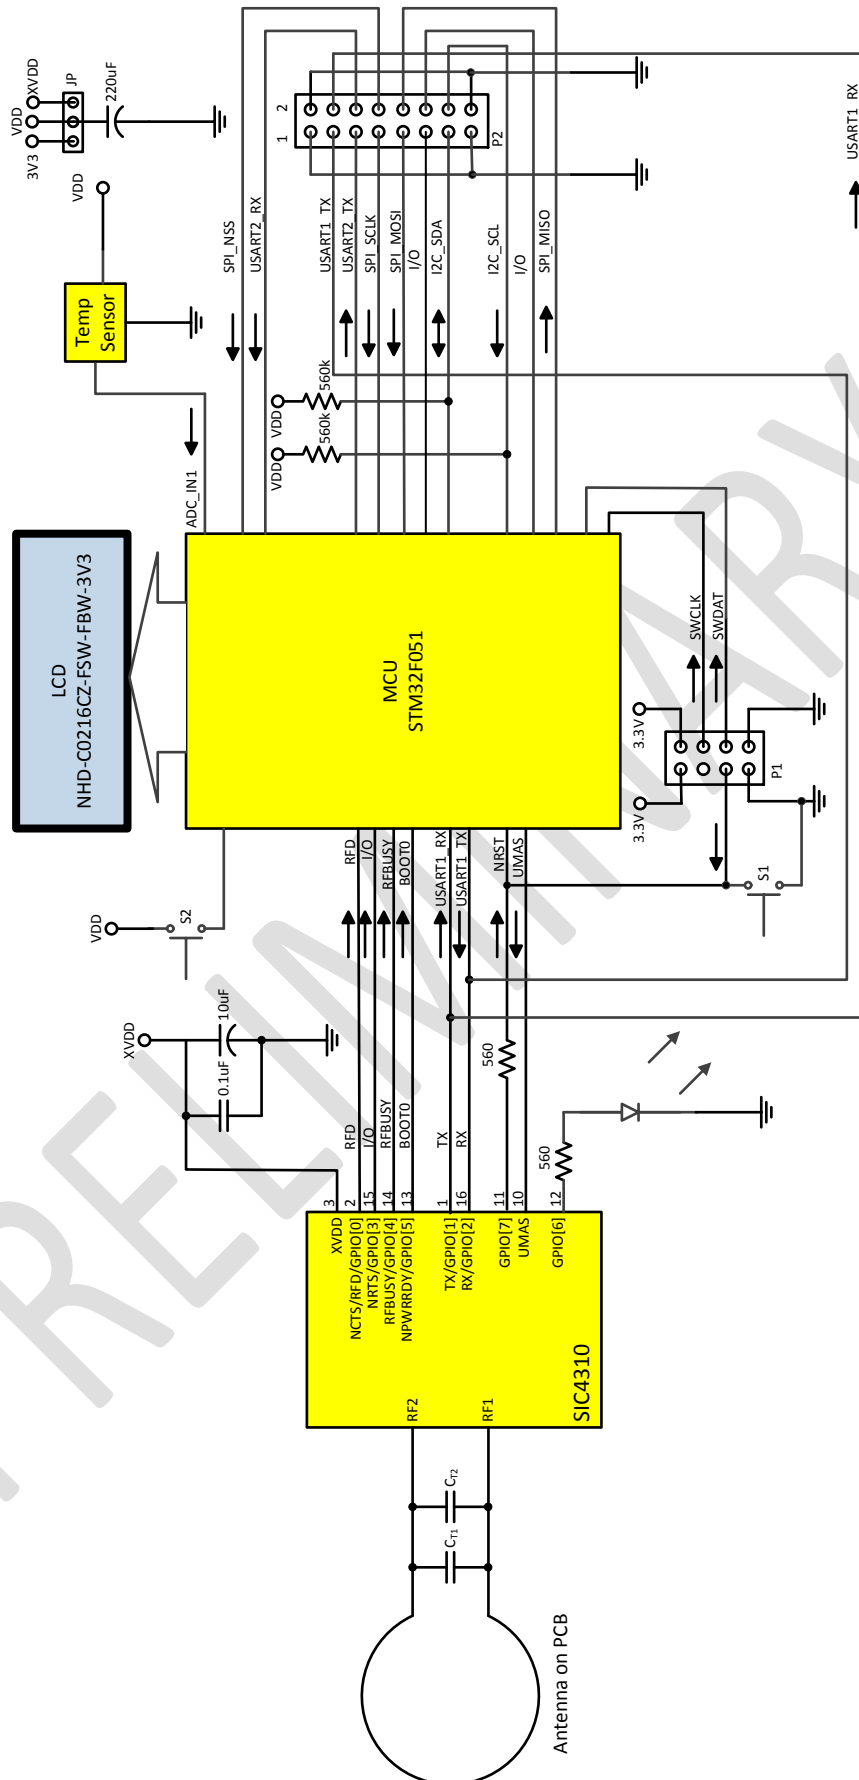

Figure 3 Simplified Schematic diagram of SIC4310-FU
The SIC4310-FU is an SIC4310 Development Kit with LCD and temperature sensor. Its main purpose is to demonstrate usage and performance of the RFID Tag IC with UART Interface "SIC4310". **Figure 3** shows a simplified schematic diagram of the SIC4310-FU. The RF connection topology of the SIC4310-FU is a close-coupling antenna network. By pin selection (JP), the power supply can be either an external 3.3V or the harvested power from RF*.